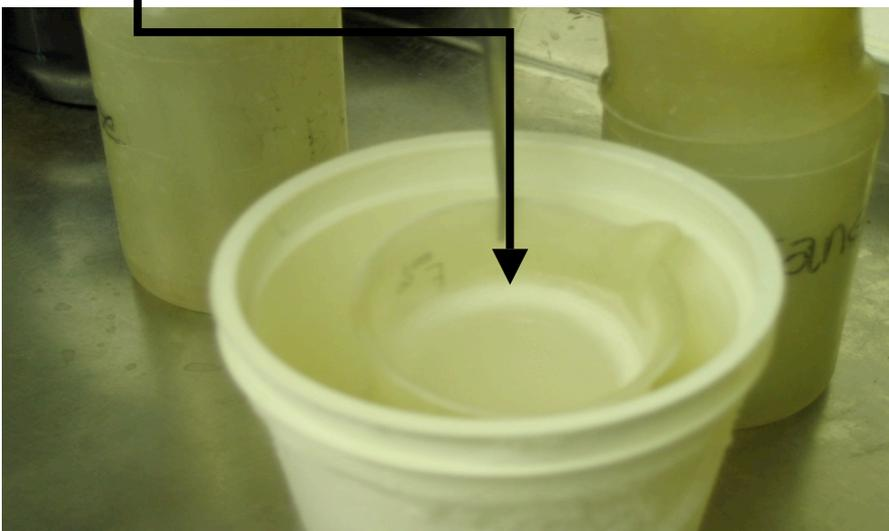

Figure 2: Isopentane/liquid nitrogen bath at stage 2.
5. Add 50mL of 2-methylbutane (isopentane) to a plastic beaker (refer to figure 2 below).
7. Allow the isopentane to cool (approximately 5 minutes). View the three stages of the isopentane cooling process (Figure 2):